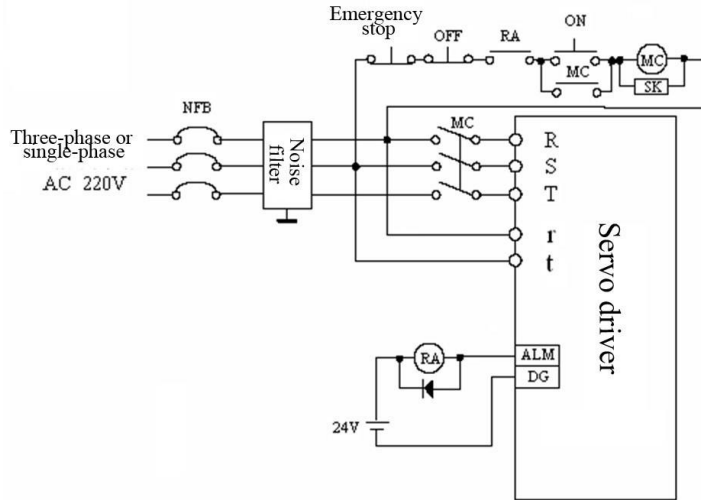

Figure 8-1 "Power-ON" wiring diagram
Please refer to Figure 8-1 for power-ON circuit and the following descriptions for its operation sequence:
- 2) Connect input power to "r" and "t" of the control circuit, parallel to the power section input terminals, or before the main circuit contactor contacts, as in fig. 8-1. If only the control circuit input supply is connected, the servo ready signal (SRDY) is OFF.